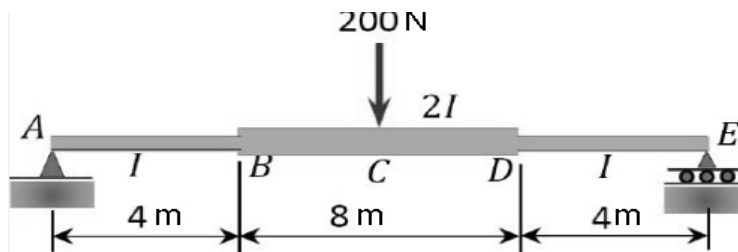

Fig 15.b
- b Using conjugate beam method, find slopes at the ends and central deflection for the beam as shown in the fig 15.b